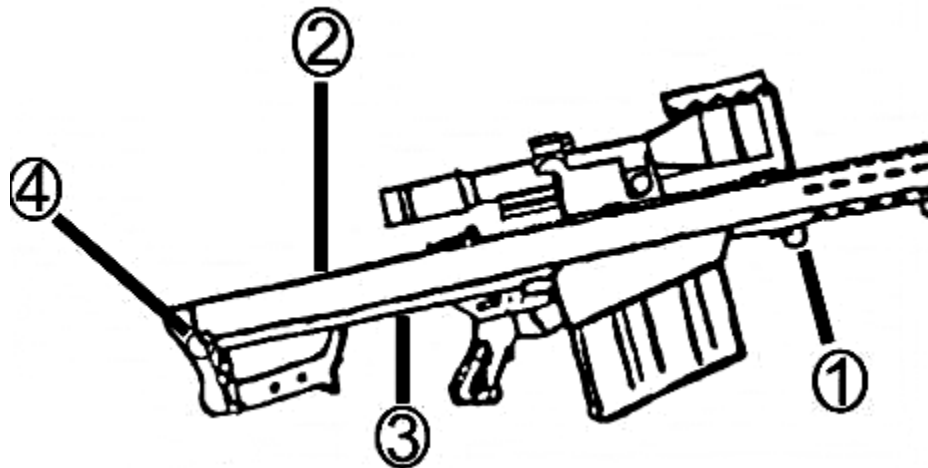

Figure 2-11. Proper Placement of Rear and Midlock Pins
- Place the midlock pin (1), Figure 2-11, through the hole near center bottom of the rifle, until it snaps fully in to lock the upper (2) and lower (3) receivers together. Insert the rear lock pin (4) from right to left through the rear (buttstock) hole to complete mating of the receivers.